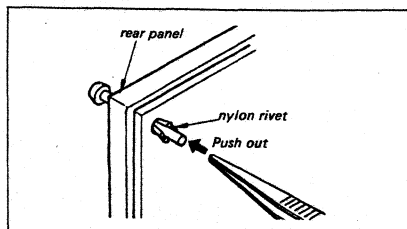

Fig. 2-9. Nylon rivet removal
1. Remove the nylon rivets securing the defective component by pushing its end with a tweezers as shown in Fig. 2-9.